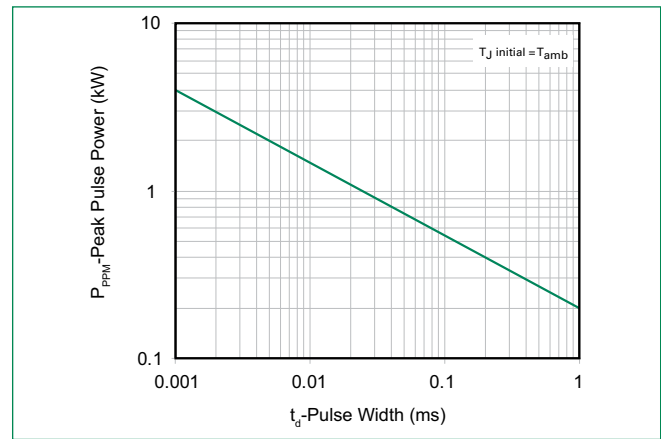

Figure 3 -
1. Non-repetitive current pulse, per Fig. 4 and derated above T_J (initial) =25 $^{\circ}$ C per Fig. 3.